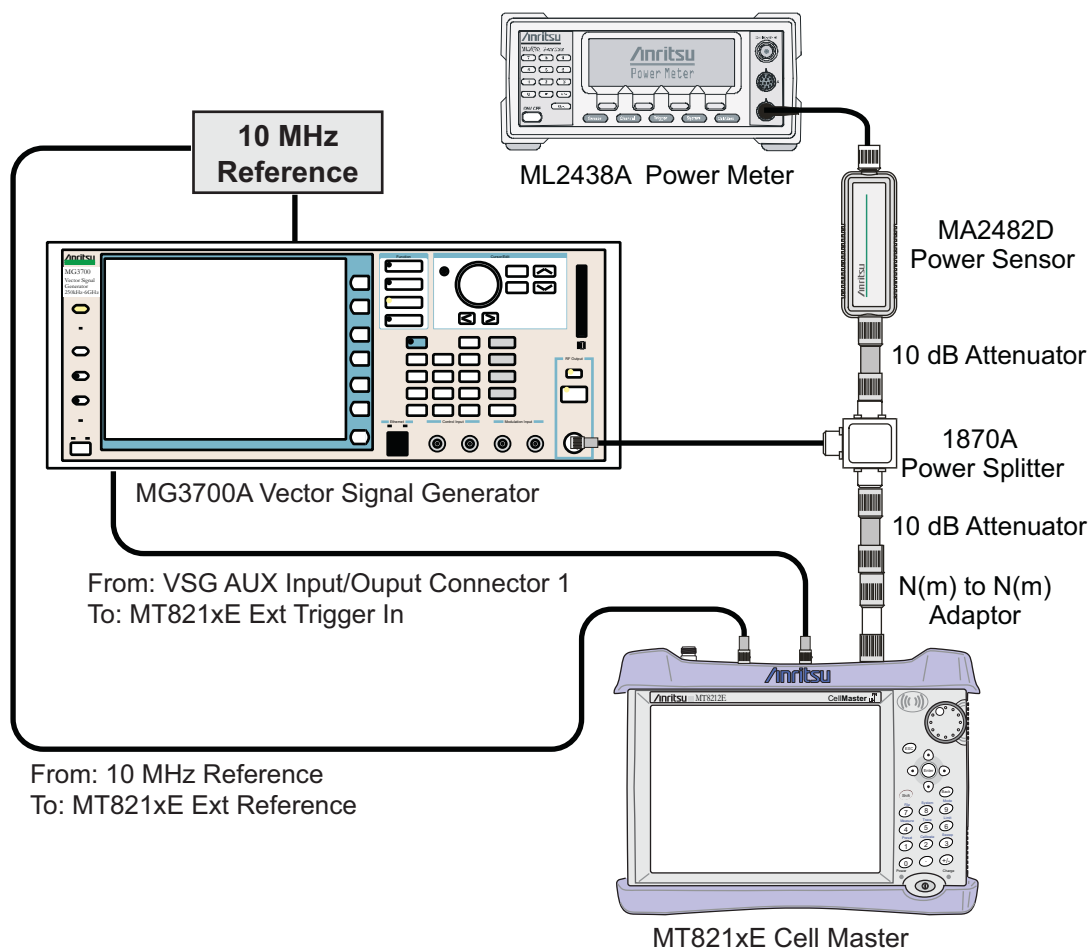

Figure 5-12. TD-SCDMA Signal Analyzer Option Verification
2. Connect the equipment as shown in Figure 5-12.